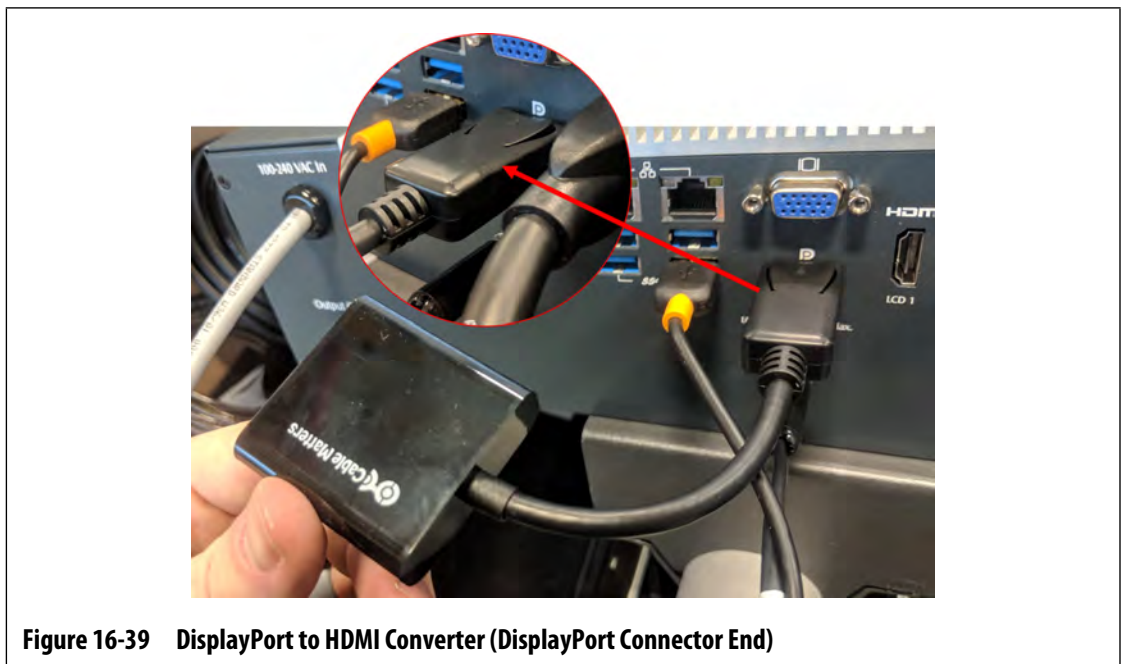

Figure 16-39 DisplayPort to HDMI Converter (DisplayPort Connector End)
5. Connect the DisplayPort to HDMI Converter (DisplayPort connector end) to the DisplayPort connector (behind the VGA connector) on the bottom of the MCU enclosure. Refer to Figure 16-39.